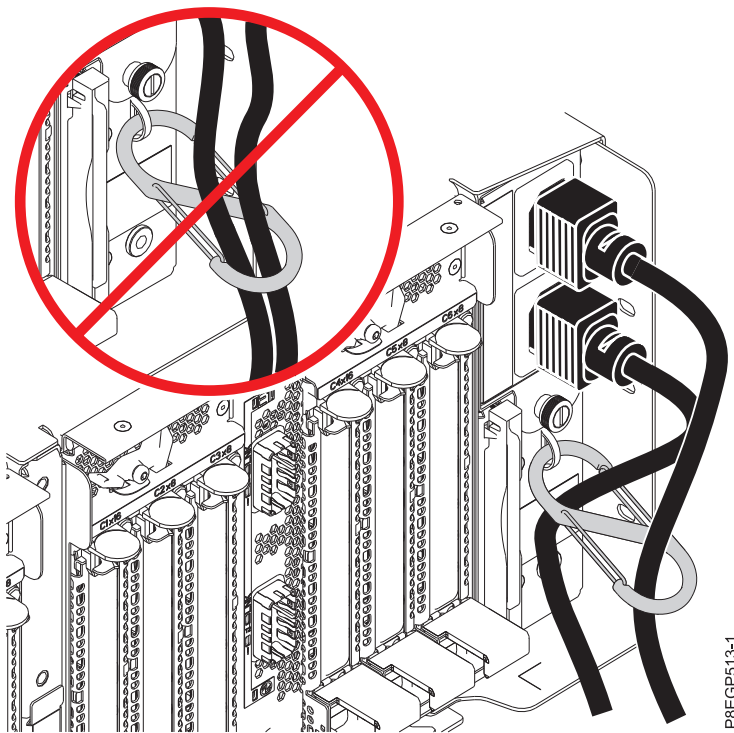

Figure 17. Routing the power cables through the s-carabiner and connecting them to the power supply
- b. Route the power cables through the s-carabiner so that the cables clear the PCIe3 6-slot fanout module or modules. See Figure 17 on page 20.
- c. Connect the other end of the power cables into the power supply on the PCIe3 expansion drawer you are installing. See Figure 17.